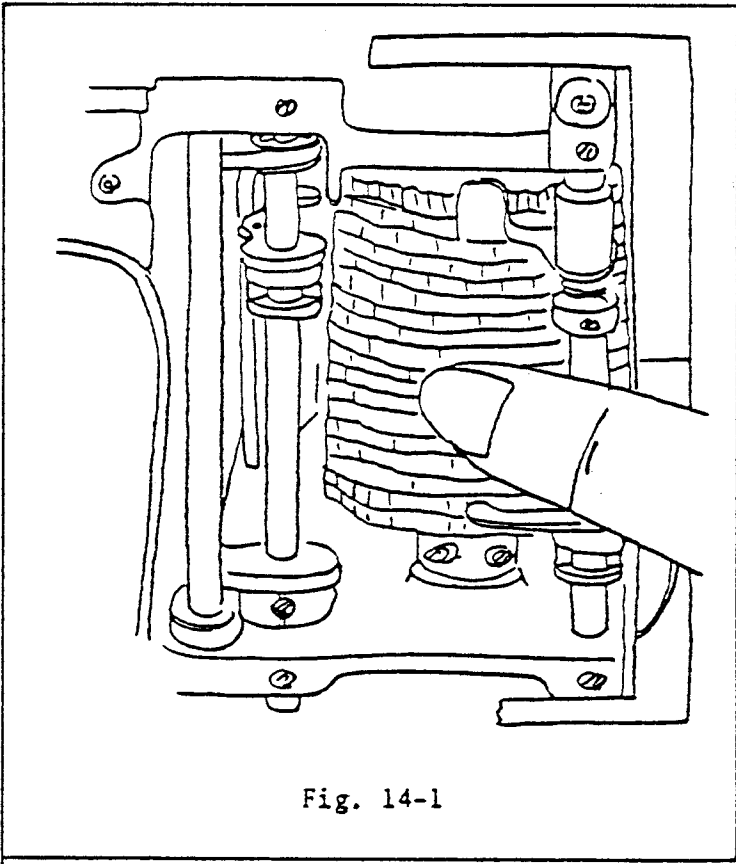

Fig. 14-1
2. With the thumb (see Fig. 14-1) check the cam stack (B) for radial and vertical play at four equidistant points on a full revolution of the cam stack (B).
3. Check buttonhole cam (A) for radial and vertical play caused by loose or incorrectly seated buttonhole cam stack driver (C).